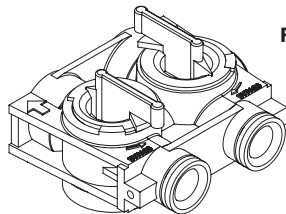

Figure 7
- Move the bypass valve handles to the service position. The valve handles should be parallel to the pipes (see figure 7).